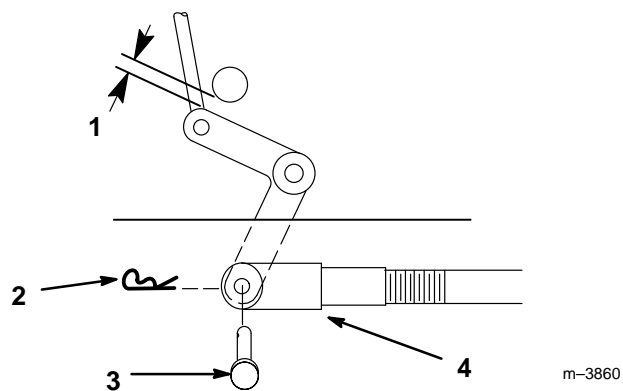

Figure 48
4. Engage PTO lever and check the clearance between the bellcrank and the axle shaft (Fig. 48). Space should be 1/4" (6mm).
5. If adjustment is required, remove hairpin cotter and clevis pin from bellcrank. Rotate clevis clockwise on rod to increase or counterclockwise to decrease clearance (Fig. 48).